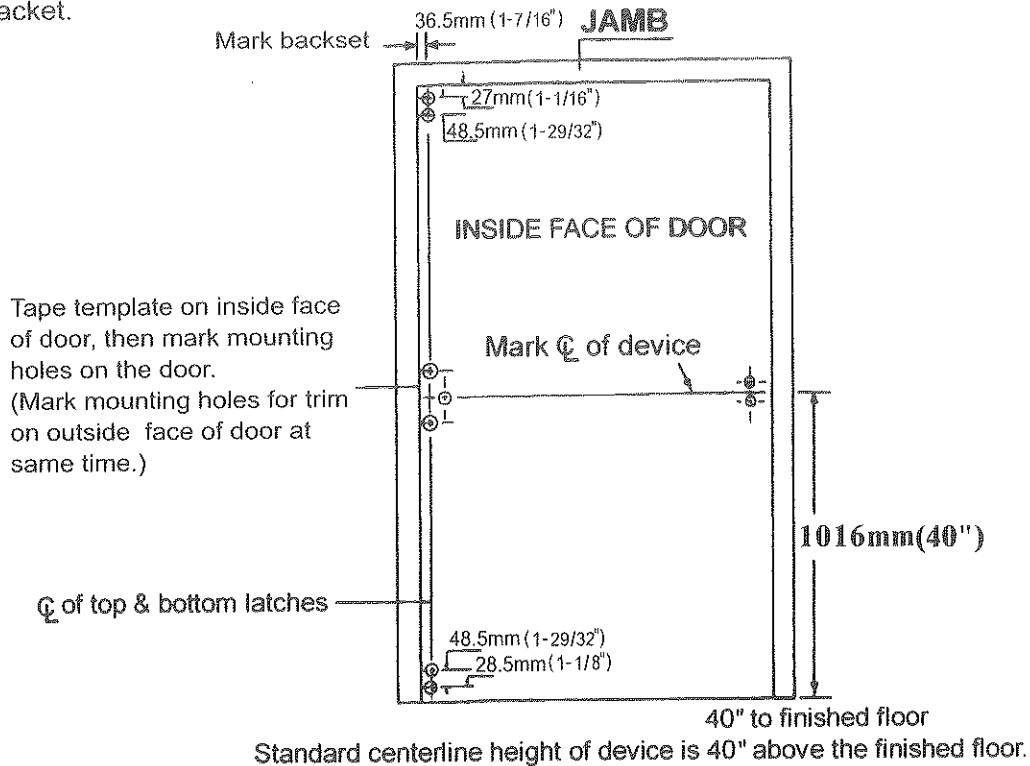

Figure 1
1. Rotate lever handle to right or left direction to match desired door handling. (See Fig. 1.)
1. Mark position of holes on the door with templates. (See Figure 1.)